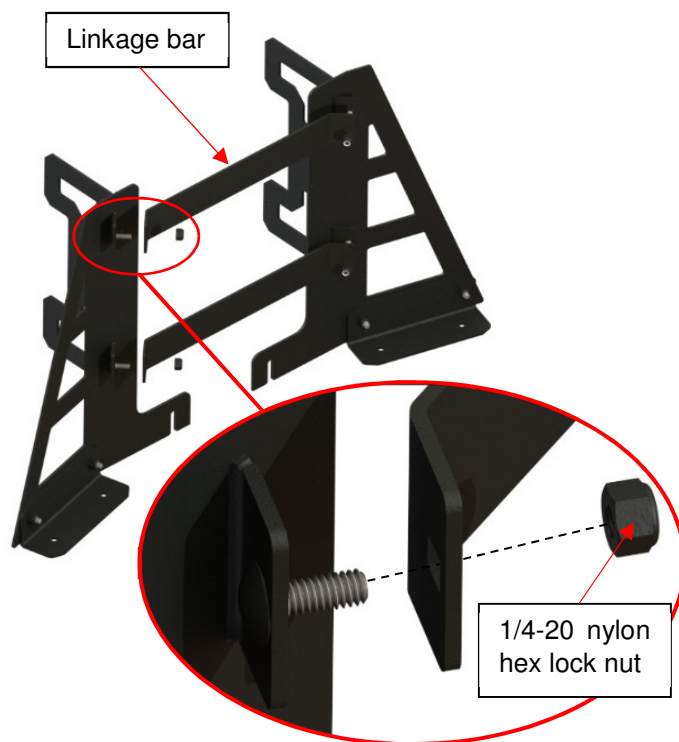

Figure 64
- 5) Link the right and left support brackets with the linkage bar with the included 1/4-20 nylon hex lock nuts and carriage bolts. Leave these loose. (Figure 64)